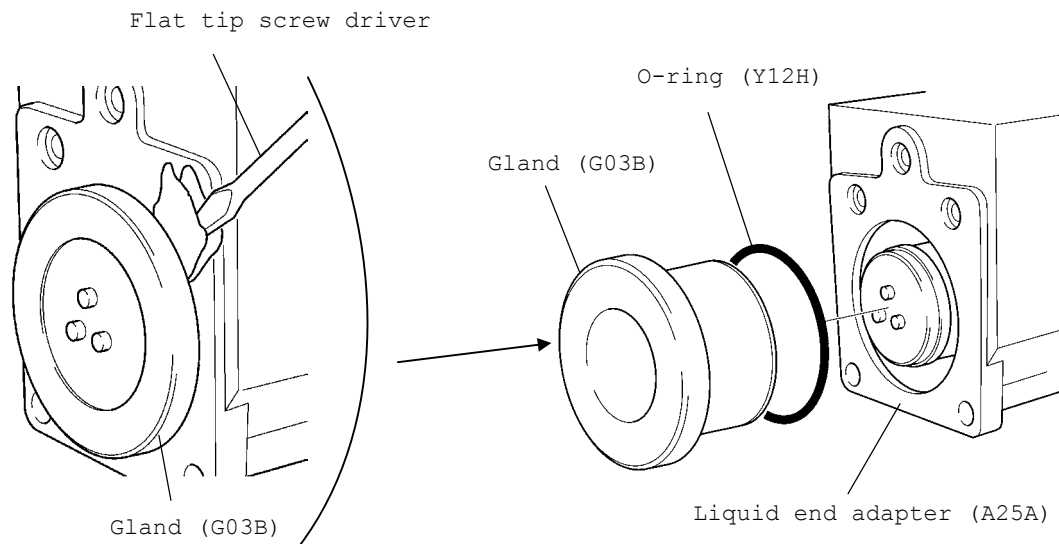

Fig. 7-16 Removal of gland (DV-6-800)
- (6) Confirm the fit of O-ring on the gland. Position the gland on the liquid end adapter and install it slowly by softly hitting it with a plastic hammer. Refer to Fig. 7-16.